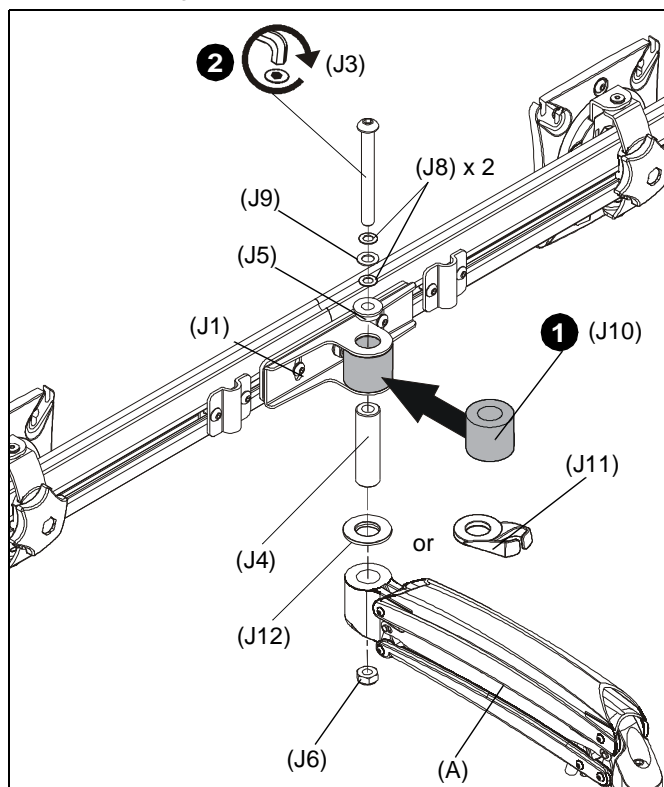

Figure 7
1. Slide rotational spacer (J10) into opening on array attachment bracket. (See Figure 7)
2. Use 5/16-18 x 3" button head cap screw (J3), two thin steel washers (J8), plastic spacer (J9), pocket washer (J5), pivot pin (J4), pivot point spacer (J12) and 5/16-18 lock nut (J6) to secure array (J1) to K1 arm (A). (See Figure 7)
**NOTE:** Cable clip (J11) can be used in place of pivot point spacer (J12) if additional cable management is desired. (See Figure 7)